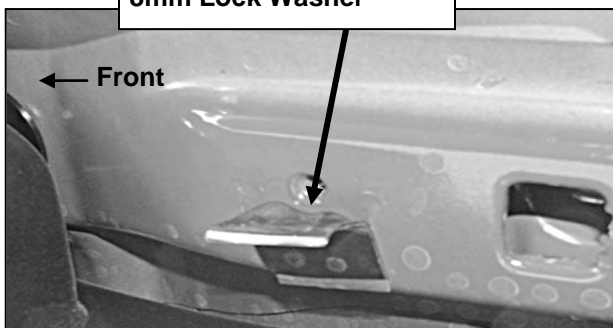
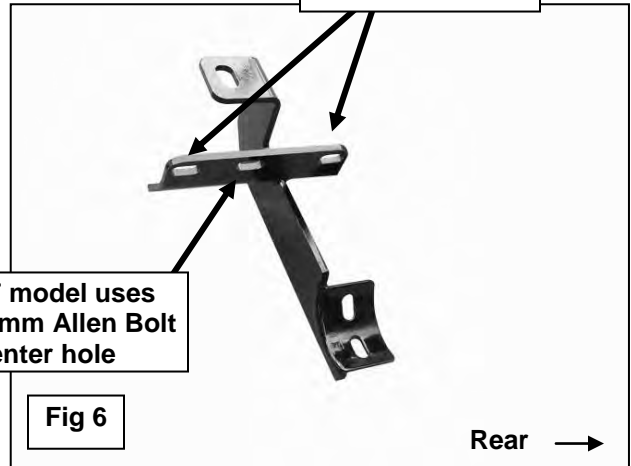

**Fig 2A**
**Fig 4**
- a. **Vehicles open mounting location:** Insert (1) 10mm Nut Plate into the large square opening in the floor panel. Line up the threaded nut with the small hole in line with the tab on the Bracket, **(Figures 2A & 2B)**. Bolt the Bracket to the Nut Plate with (1) 10mm x 35mm Hex Bolt, (1) 10mm Lock Washer and (1) 10mm Flat Washer. Do not tighten hardware, **(Figure 4)**.
3. Line up the mounting plate on the Bracket with the (2) factory holes in the pinch weld. Bolt the Mounting Bracket to the **back** of the pinch weld using the included (2) 6mm x 25mm Button Head Allen Bolts, (2) 6mm x 18mm Small Flat Washers, (against pinch weld), (2) 6mm x 22mm OD Large Flat Washers, (inside against the bracket) and (2) 6mm Nylon Lock Nuts, **(Figure 4)**. Leave loose at this time.
5. Carefully unwrap and position the driver Sidebar onto the Brackets. Attach the Sidebar to the Mounting Brackets using the included (4) 8mm x 25mm Hex Bolts, (4) 8mm Lock Washers and (4) 8mm Flat Washers **(Figure 4)**. Do not tighten at this time. **NOTE:** The Sidebar has (2) sets of inserts to bolt the Sidebar to the rear Bracket.